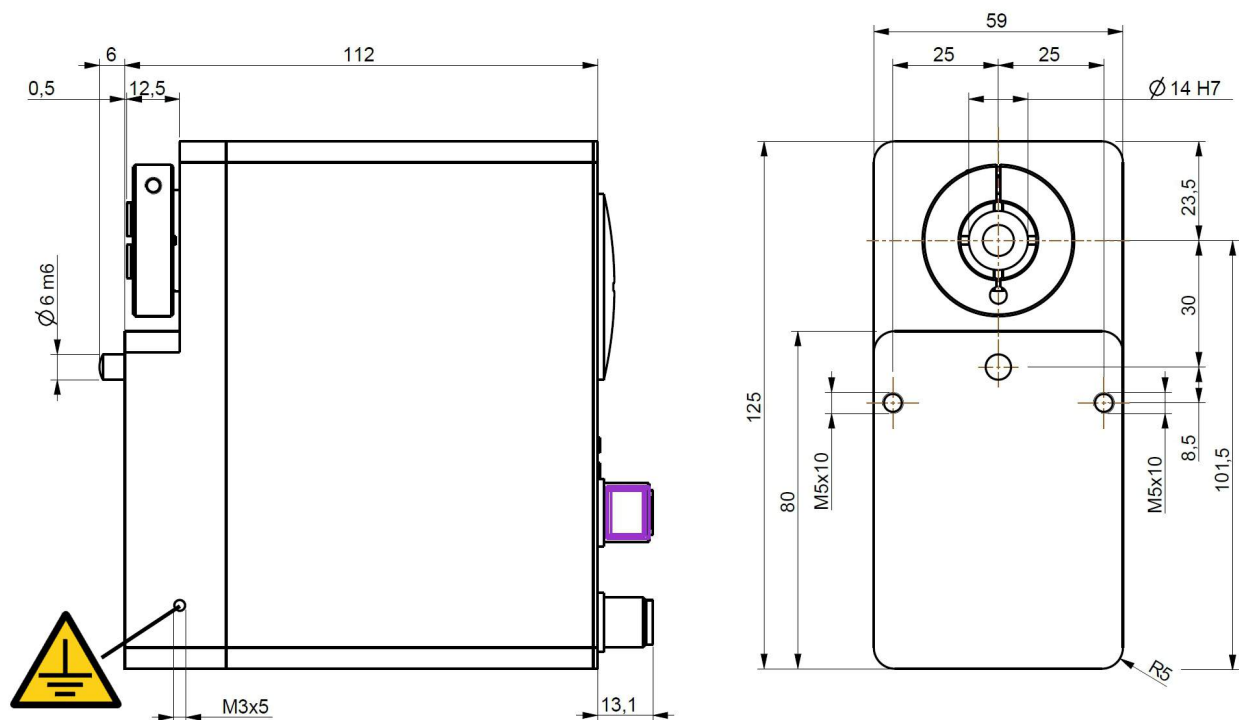
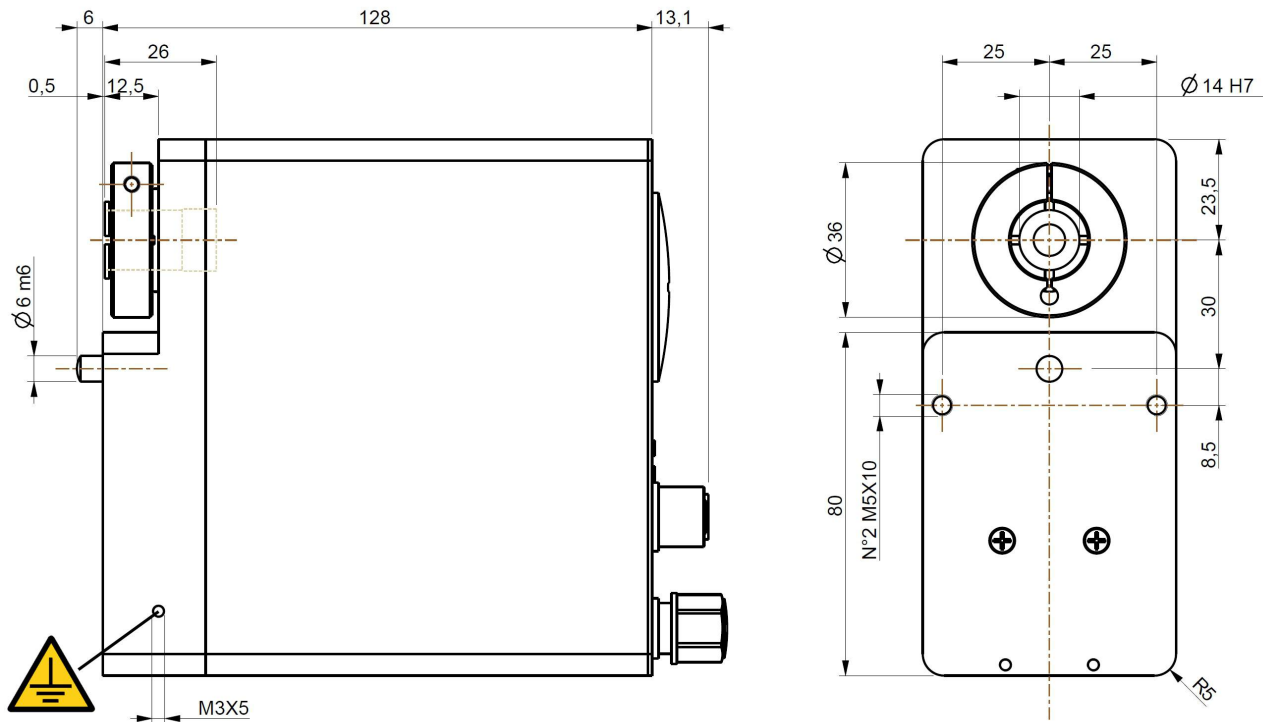

Figure 1 - RD1A unit – Overall dimensions
Figure 2 - RD12A unit – Overall dimensions
4.1 Ground connection (Figure 1 and Figure 2)
To minimize noise connect properly the frame to ground; we suggest using the ground screw provided in the frame (see Figure 1 and Figure 2). Connect properly the cable shield to ground on user's side. Connect the cable shield to the connector metal housing; see also note in the next paragraph. Anyway make sure that ground is not affected by noise. It is recommended to provide the ground connection as close as possible to the device.